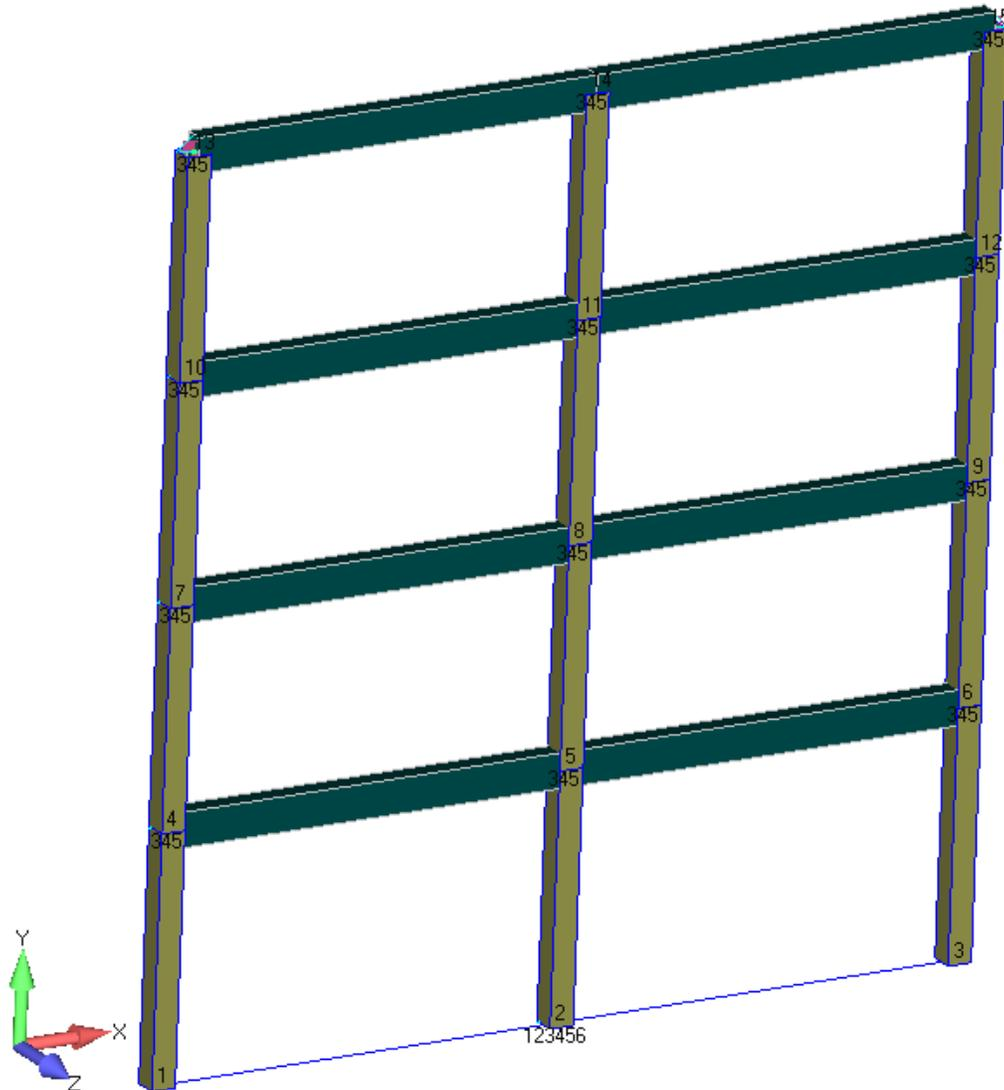
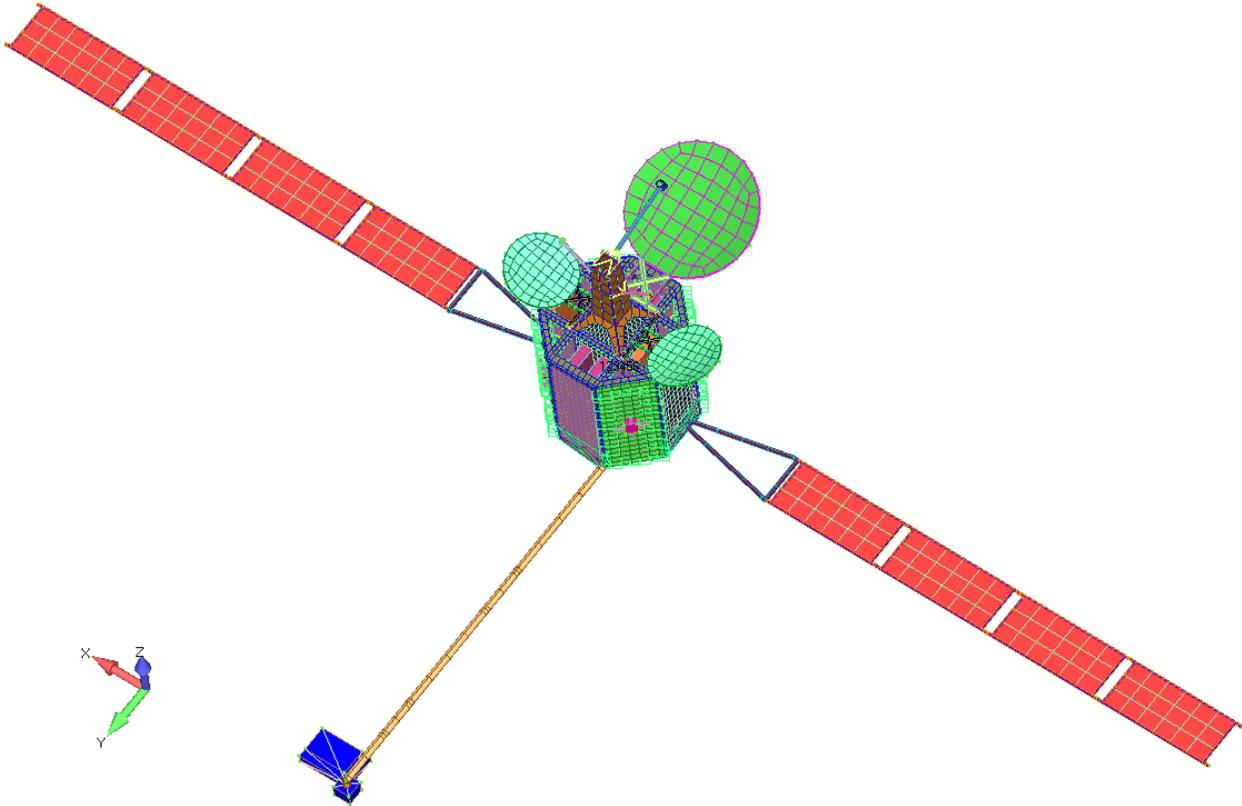

Figure 4-3. Two-dimensional frame model.
Figure 4-6. ISat model in deployed configuration.
The two-dimensional frame model (Figure 4-3) consists of an array of bar elements three columns wide and four rows high. Concentrated mass elements are located at each intersection of bar elements while the bars themselves are massless, thus making this a lumped mass approximation. The bottom node of each outer column is connected by a rigid element to the bottom node of the center column, which is fixed in all six DOF. Enforced motion in X translation is enabled at this node. Out-of-plane (Z) translation and X and Y rotation are constrained at all other nodes.
The deployed configuration "ISat\_Dploy\_Sm.dat" (Figure 4-6) is a free-free model with the launcher adapter removed and the solar panels, antenna dishes, and instrument package deployed. This model includes residual vectors that can improve stress calculations for loads applied at the reaction control system (RCS) thrusters.
You may wish to adjust the view settings in Femap at this point. For example, in the figures showing the frame and ISat models (Figure 4-3 through Figure 4-6), we set the background color to solid white; set the color of all labels and postprocessing titles to black; had Femap assign a different color to each physical property in the model and then set the element color mode to use physical property colors; and set the element orientation/shape option to show cross sections, which also shows shell element thickness.
1. In Femap, import the frame model "frame01\_modes.dat" (Figure 4-3). Save the Femap model file as "frame.modfem."